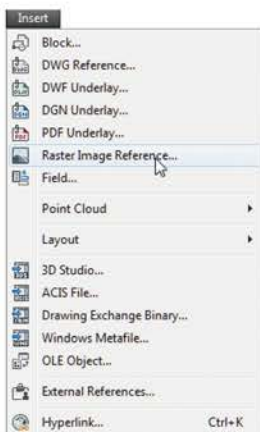

Fig. 14.8 Selecting Raster Image Reference . . . from the Insert drop-down menu
1. *Click* **Raster Image Reference . . .** from the **Insert** drop-down menu (Fig. 14.8). The **Select Reference File** dialog appears